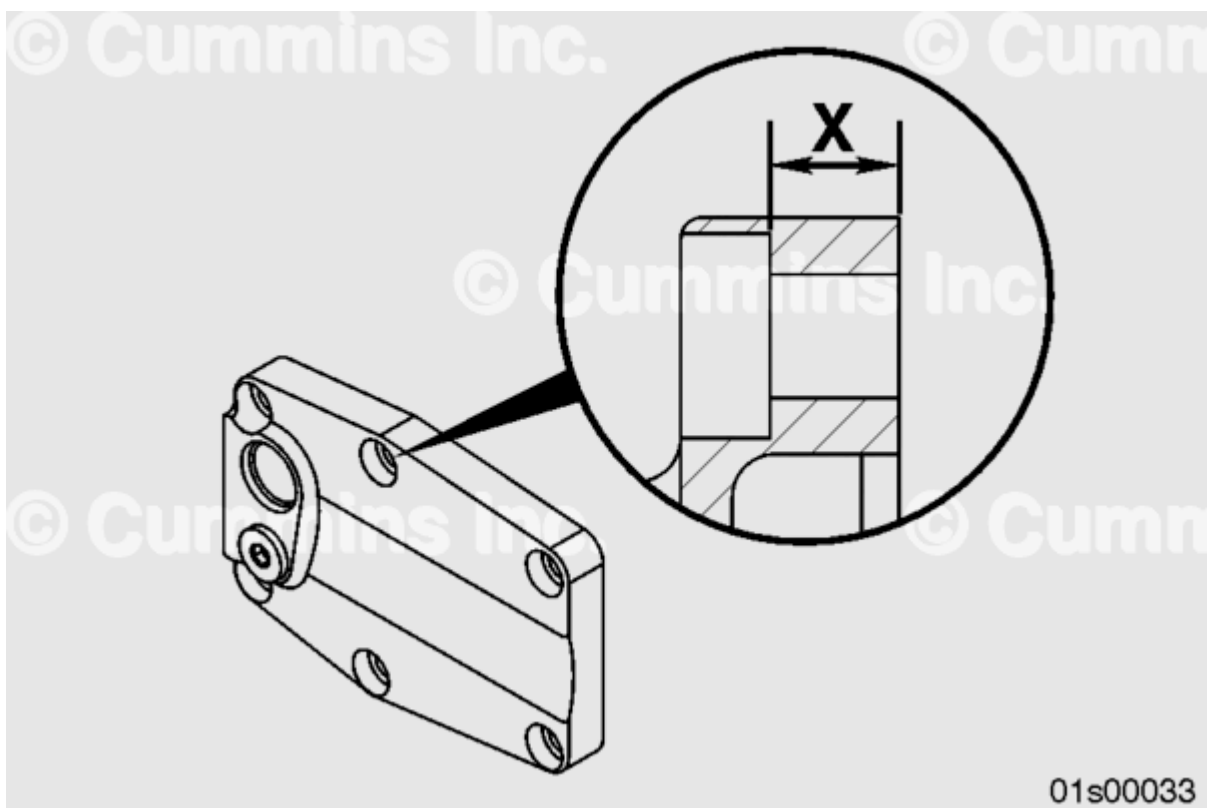

Figure 3: Jumper Cover Thickness Measurement
- Measure the thickness of the material between the bottom of the counter-bored hole and the machined face of the cover. See Figure 3.